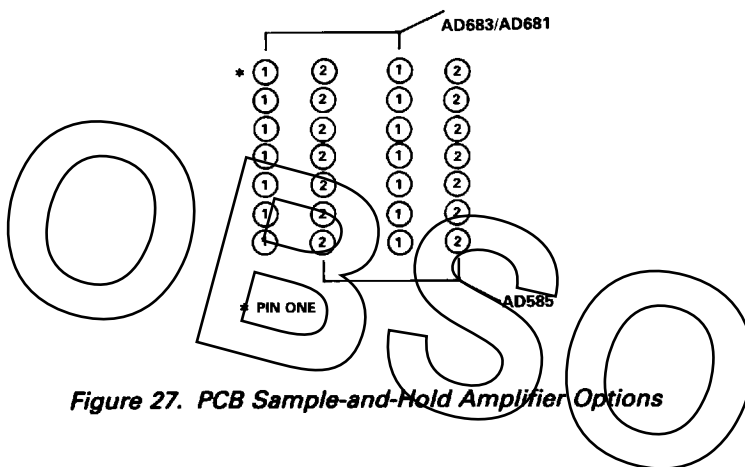

Figure 27. PCB Sample-and-Hold Amplifier Options
**IC1** Sample and hold, IC1 can occupy one of two positions depending on the sample-and-hold model. These positions are outlined in Figure 27. The plated-through holes denoted by "1" are configured for the AD683/AD681 and the plated-through holes denoted by "2" are configured for the AD585.